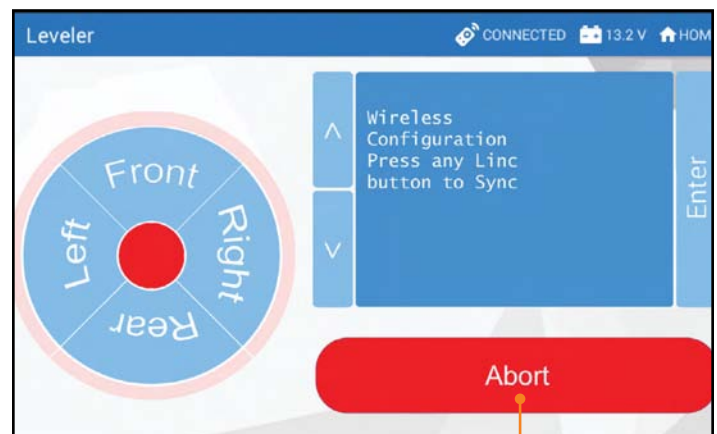

Fig.42
7. Press "ENTER" (**Fig.41A**). The screen will display "Wireless Configuration Press any Linc button to Sync" (**Fig.42**).